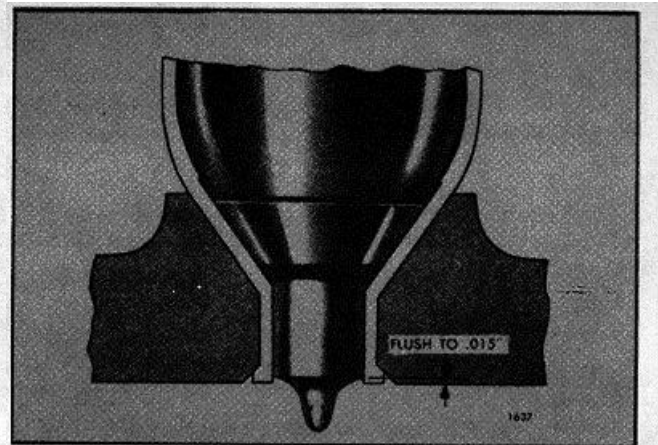

Fig. 6 - Checking Location of Injector Spray Tip Relative to Lower Surface of Cylinder Head
- d. Remove the chips from the injector tube and, using an injector as a gage, continue the reaming operation until the shoulder of the spray tip is within the limits specified in Fig. 6. Then wash the interior of the injector tube with trichloroethylene or clean fuel oil and dry it with compressed air.